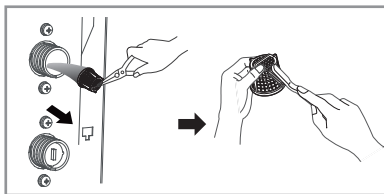

Fig.21
- Clean the filter using a hard bristle brush under the running water. ( Fig.21 )